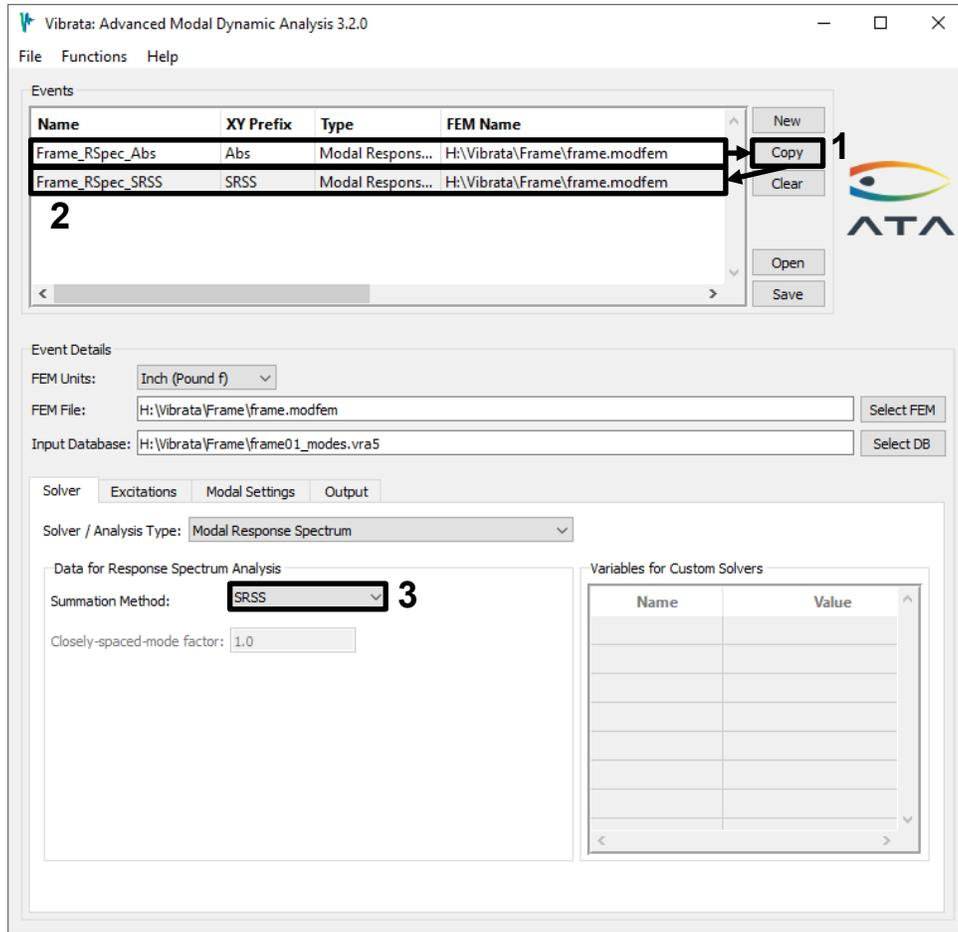

Figure 4-82. Copy the event and change the summation method to SRSS.
9. Copy this event. Change the summation method to *SRSS* and change the event name to reflect this (Figure 4-82). Solve the *SRSS* event.